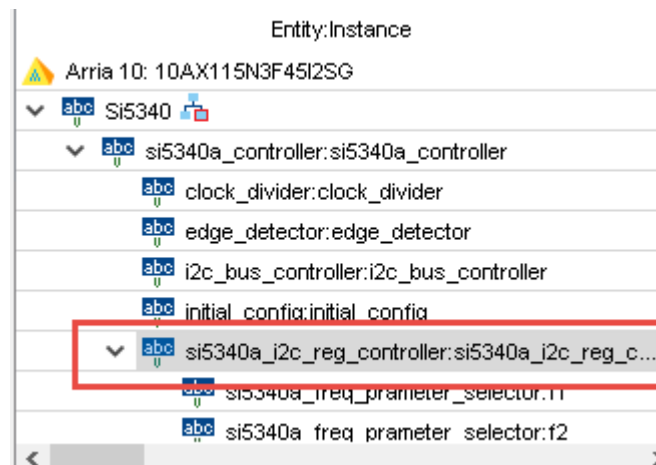

Figure 5-8 Sub-Module file “si5340a_i2c_reg_controller.v”
- Open Si5340 control IP sub-module “si5340a_i2c_reg_controller.v” as shown in **Figure 5-8**, refer Design Report parameter to modify sub-module corresponding register value (See **Figure 5-9**).